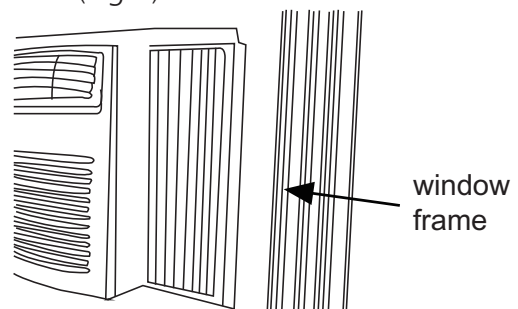

Fig.6
- B. Extend the side panels out against the window frame(Fig.6).